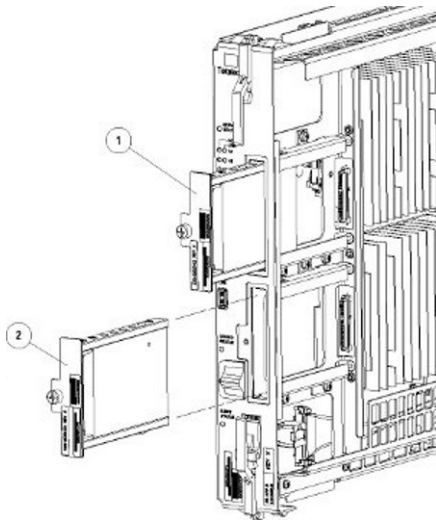

Figure 54: Drive Module Removal
5. Grasp the screw (E) and pull the drive out slowly until it is free from the card (see Figure 54: Drive Module Removal).